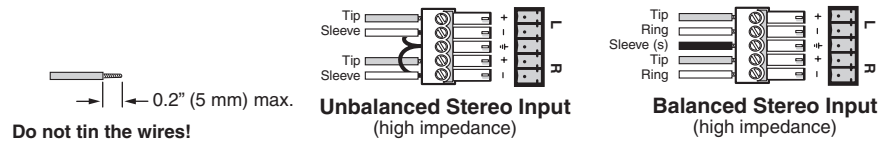
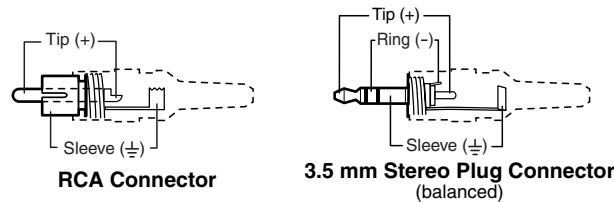

Figure 2-4 — Captive screw connector wiring for inputs
Figure 2-5 — Phono audio connectors
- ③ **Input audio connectors** — Connect balanced or unbalanced stereo or mono audio sources to these 3.5 mm, 5-pole captive screw connectors. Connectors are included with the seamless switcher, but you must supply the audio cable. Figure 2-4 shows how to wire a connector for the appropriate input type. High impedance is generally over 800 ohms.
NOTE When making connections for the seamless switcher from existing audio cables, see figure 2-5. A mono audio connector consists of the tip and sleeve. A stereo audio connector consists of the tip, ring and sleeve. The tip, ring, and sleeve wires are also shown on the captive screw audio connector diagram, figure 2-4.